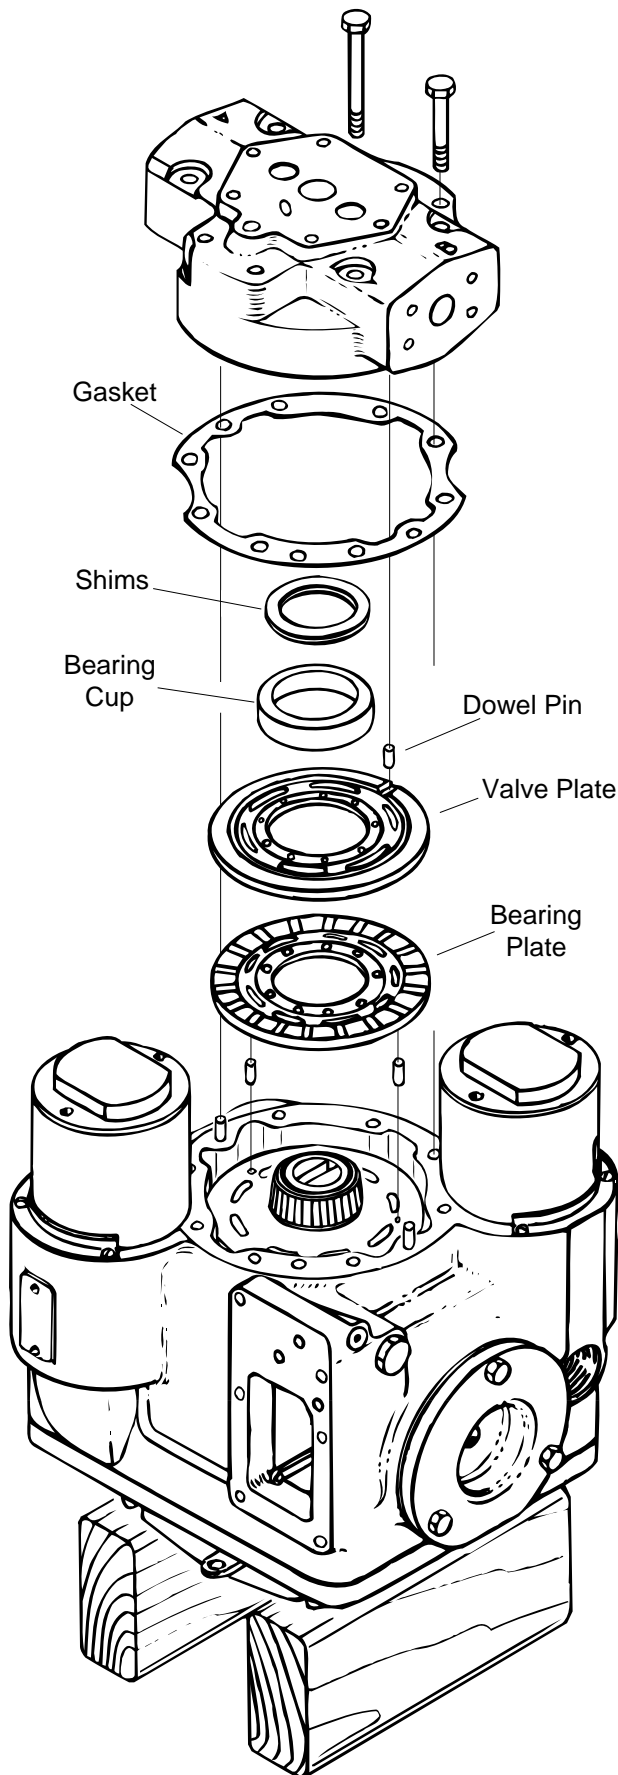

Figure 5
**Note:** The standard end cover is shown in figure 5. Two optional end covers are available. Use the same removal procedure for the optional end covers. Breakdowns of the optional end covers are shown in the appendices:
**22** Remove the two dowel pins from cylinder barrel face, see figure 5.